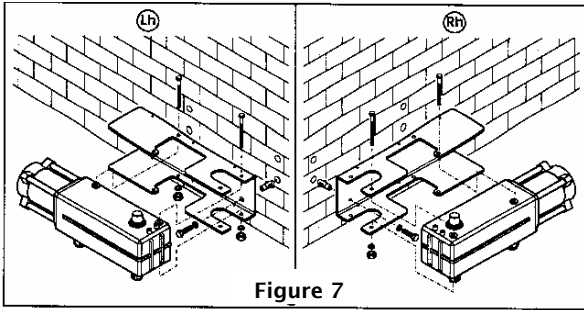

Figure 7
- \* Fit the 390 Operator into the base plate and secure it with the 2 screws, nuts and lock washers. Figure 7
Figure 7 shows how to attach the operator to the base plate.